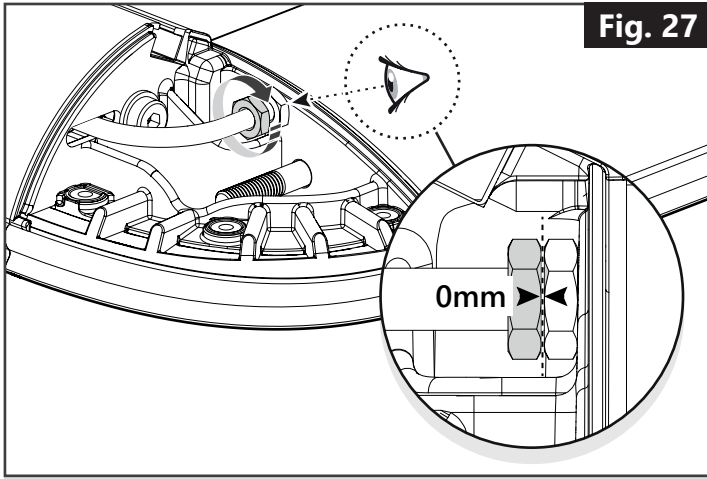

Fig. 27
- 9) Lightly tighten the outer nut, so it sits flush with the inner nut. **(Fig. 27)**